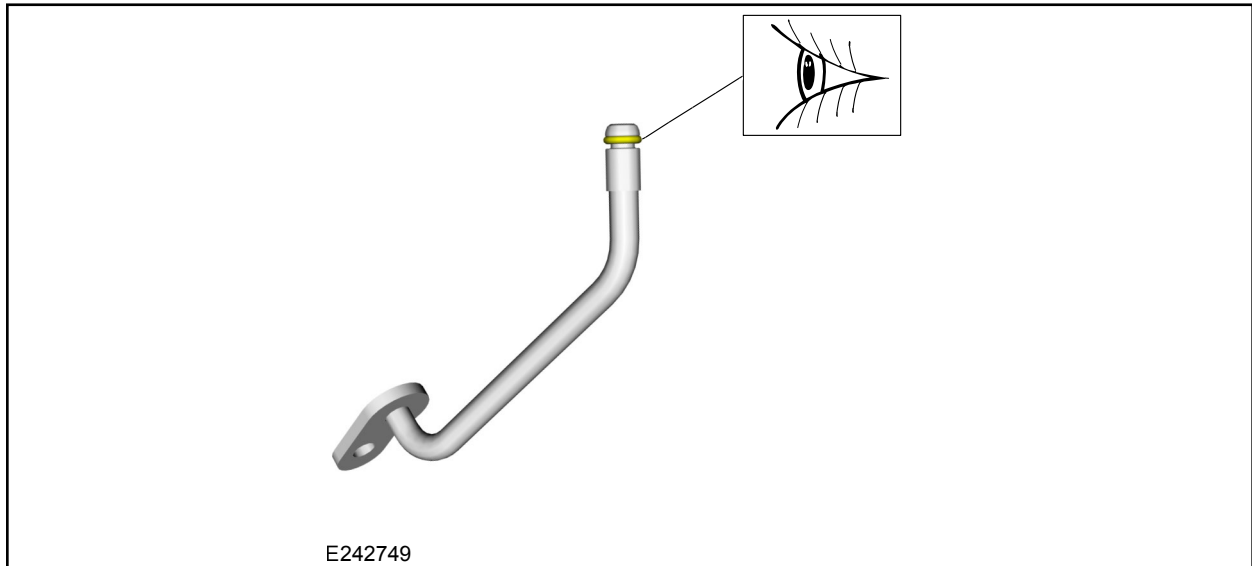

FIGURE 2
4. Inspect the transmission fluid auxiliary pump tube O-ring. Replace if worn or damaged. See Figure 2.